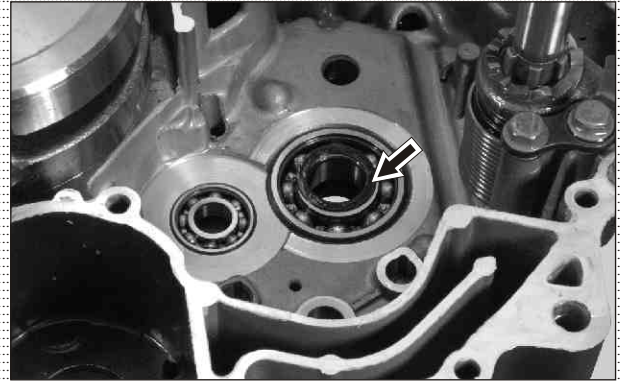

Fig. 3.102
- Take out thrust washer (20x27x1) from the shaft complete drive seating area (above the ball bearing). (Fig. 3.102)